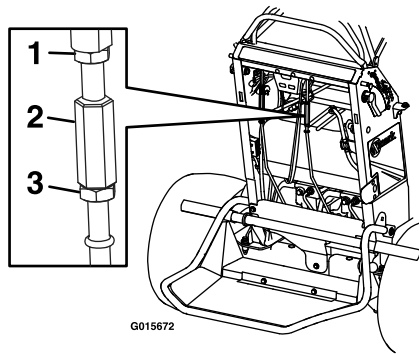

Figure 37
6. Loosen the lock nuts on the RH motion control linkage (as viewed from the rear of the machine — see Figure 37). With the right motion control in the PTO disengage position, hold the LH motion control in the position determined in step 4 or 5. Rotate the adjustment rod until the LCD indicator comes on.